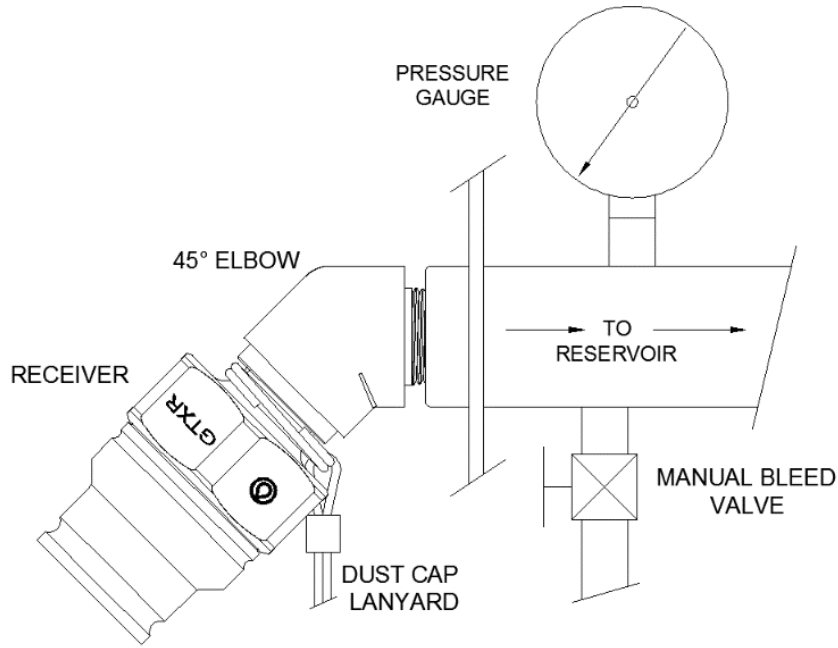

Figure 4 - Example of Grease Servicing Arrangement with GTXR Receiver and Elbow
**Note:** To improve ease of use (ergonomics) in the event the GTXR Receiver is installed at a height above (human) chest height (i.e. approx. 1.2m, 4’), end-users may benefit from the installation of an **elbow** (i.e. whether 45° or 90°) between the Receiver outlet and the inlet to the grease reservoir service point. An illustration is provided in Figure 4.